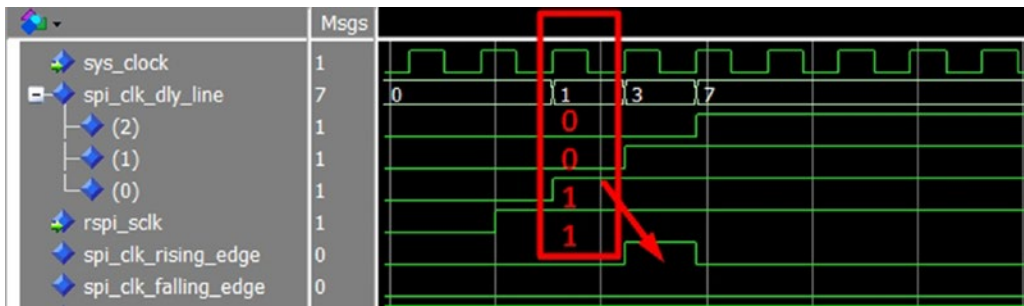

Figure 15-10. Rising edge detection simulation
On line 45, we use a 3-bit shift register (`spi_clk_dly_line`) to sample the `rspi_sclk` by `sys_clock`. When the change of the `rspi_sclk` is sampled and stored in the shift register we can do all the clock edge detection logic in `sys_clock` domain. Figure 15-10 shows that the rising edge detection pulse is delayed two `sys_clock` clock cycles. It is expected when we use a fast clock to sample a slow clock and do the clock edge detection. The `spi_clk_dly_line` (2), (1), and (0) are storing the history of the `rspi_sclk`. We defined the rising edge as when (2) and (1) are logic low and at the clock cycle (0) and `rspi_sclk` are logic high.